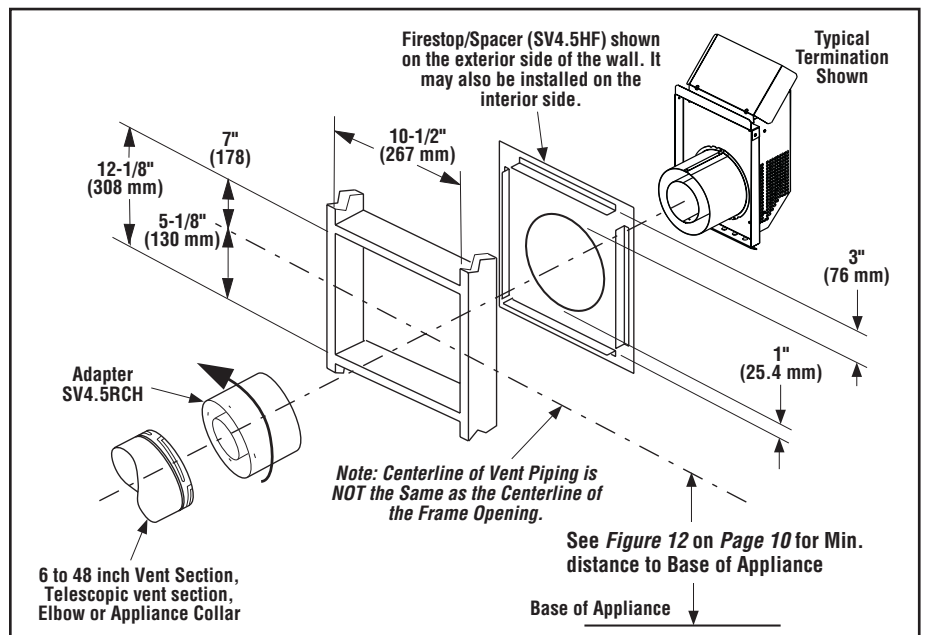
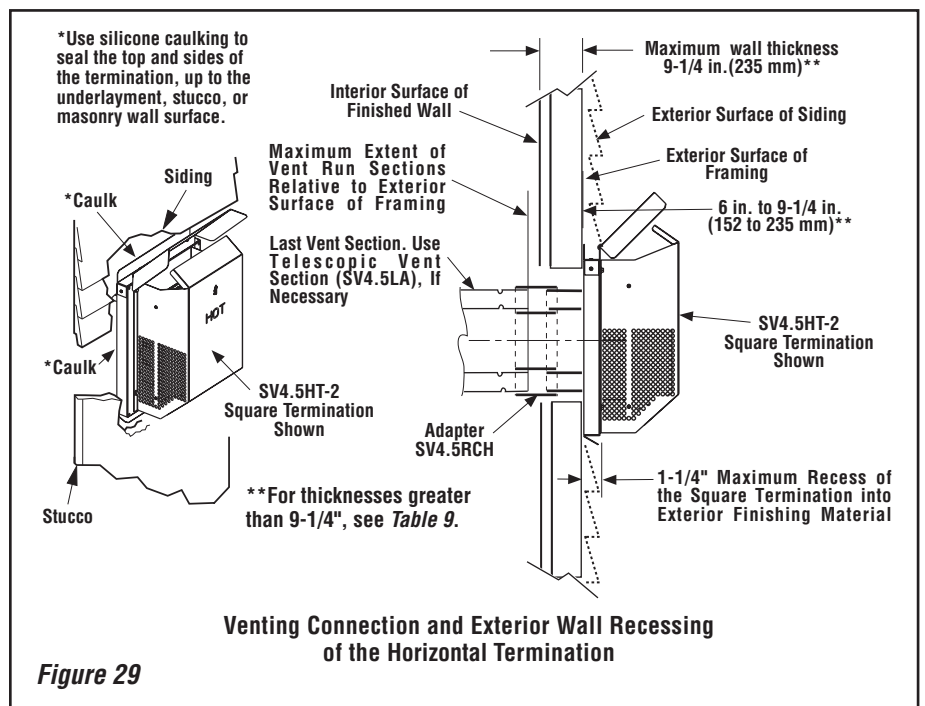

Figure 28 - INSTALLING HORIZONTAL TERMINATION
Figure 29
J. Assemble vent run to exterior wall - If not previously measured, locate the center of the vent at the exterior wall. Prepare an opening as described in **Step B and Figure 28**. Assemble the vent system to point where the terminus of the last section is located relative to the exterior surface to which the termination is to be attached as shown in **Figure 29 and Table 9**.
If the terminus of the last section is not within this distance, use the **telescopic vent section SV4.5LA**, as the last vent section. For wall thicknesses greater than that shown in **Figure 29**, refer to **Table 9 on Page 20**. This Table lists the additional venting components needed (in addition to the termination and adaptor) for a particular range of wall thicknesses.
K. Attach termination adaptor - Attach the adaptor (SV4.5RCH - provided with the termination) to the vent section or telescoping vent section), elbow or appliance collar as shown in **Figure 28** in the same manner as any SV4.5 vent component (refer to **Step E**).
L. Install Firestop/Spacer at exterior wall - When using the termination, install SV4.5HF (**Secure Vent™**), SF4.5HF (**Secure Flex™**) Firestop/Spacer over the opening at the exterior side of the framing, long side up, with the 3 inch spacer clearance at the top as shown in **Figure 28**, and nail into place.
For the last step, from outside the exterior wall, slide the collars of the termination onto the adaptor (the outer inside the outer and the inner outside the inner) until the termination seats against the exterior wall surface to which it will be attached. Orient the housing of the termination with the arrow pointed upwards. Secure the termination to the exterior wall. **The horizontal termination must not be recessed into the exterior wall or siding by more than the 1-1/4" (32 mm) as shown in Figure 29.**
Note: See Figure 29 showing wall thickness range when using SV4.5HT-2 termination kit.